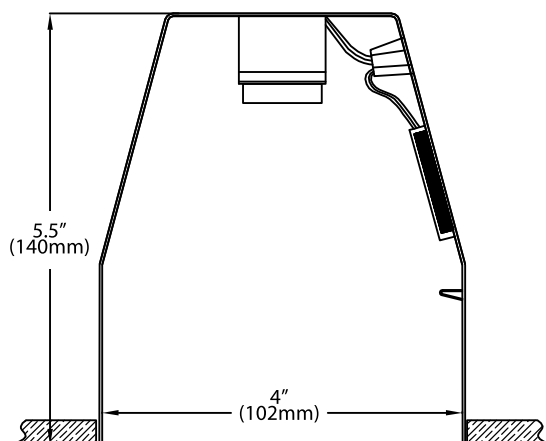

FIG. 2
- Step 3. Install adapter into socket (see FIG. 2).